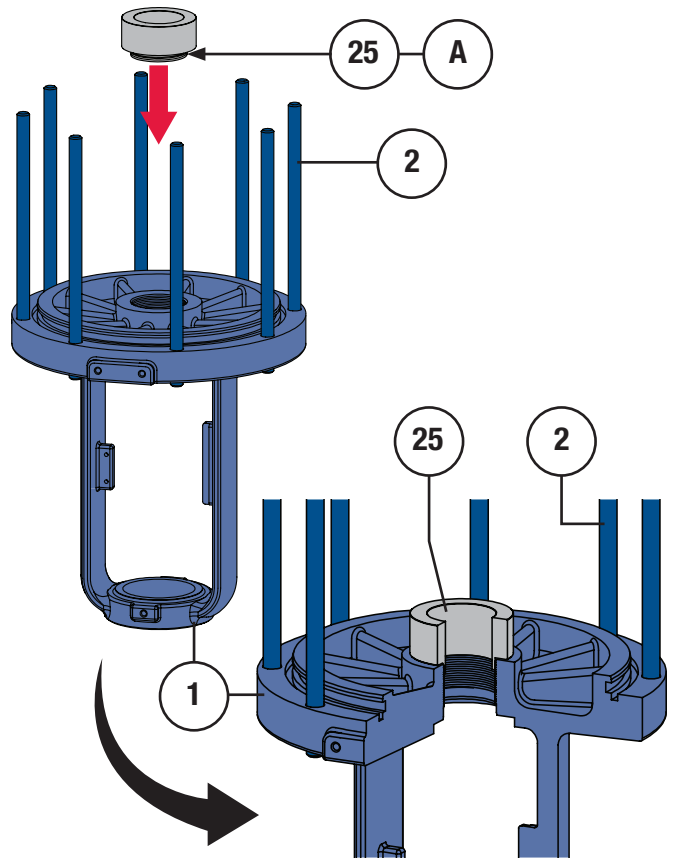

Figure 20 Down Travel Stop Installation
- 8 Remove the travel stop (Key 25) if installed. Refer to Figure 20 on Page 15.
- 2 Thread the travel stop (Key 25) into the yoke (Key 1) as shown in Figure 20.